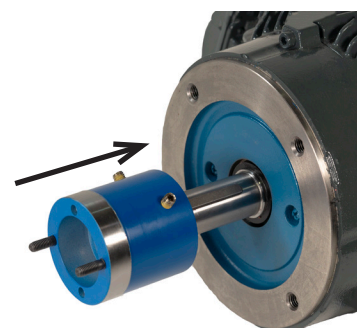

figure 1a
- A. Apply anti-seize paste to motor shaft then slide shaft adapter (item 11B) onto motor shaft until end of shaft is firmly against retaining ring. See figure 1a & 1b. The shaft adapter is held to a tight tolerance with motor shaft. It may be necessary to tap the shaft adapter into position using a dead blow hammer or heat it with an oven/induction heater to around 180° F (82° C).